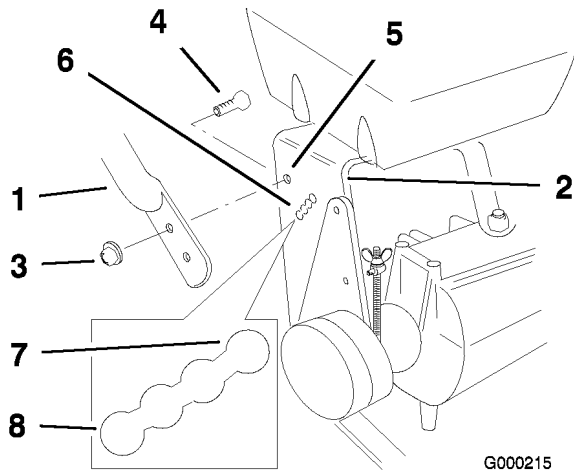

Figure 27
2. Loosen the upper flange bolts (3/8 x 1 inch) and flange nut securing handle to rear frame (Figure 27).